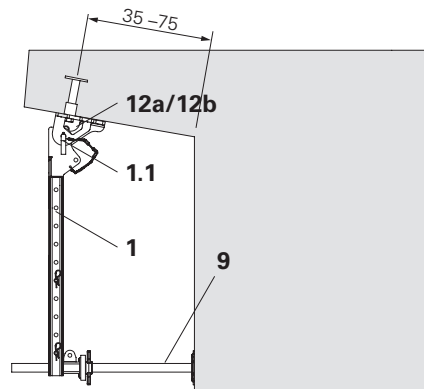

Fig. B1.08
1. Insert Adj. Base Plate UJB 38-80/55 (9) into Bracket Unit VGK (1) and vertically align.
2. Secure the Adj. Base Plate UJB 38-80/55 (9) against falling out and unintentional twisting. (Fig. B1.08)